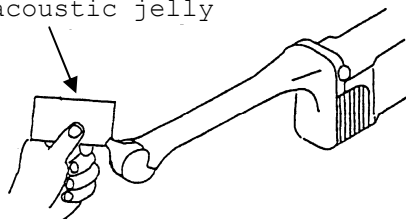

Fig.8
- 4) Put proper quantity of sterilized acoustic jelly on the probe head as a couplant. (See Fig.8.)